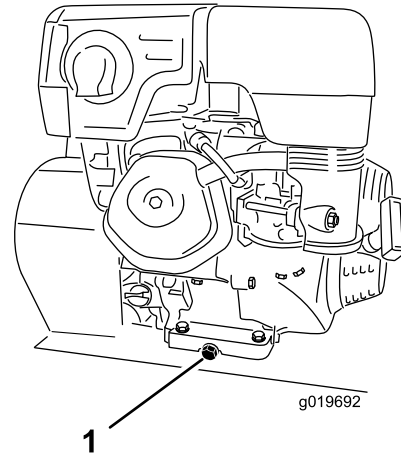

Figure 19
- Remove the drain plug (Figure 19).